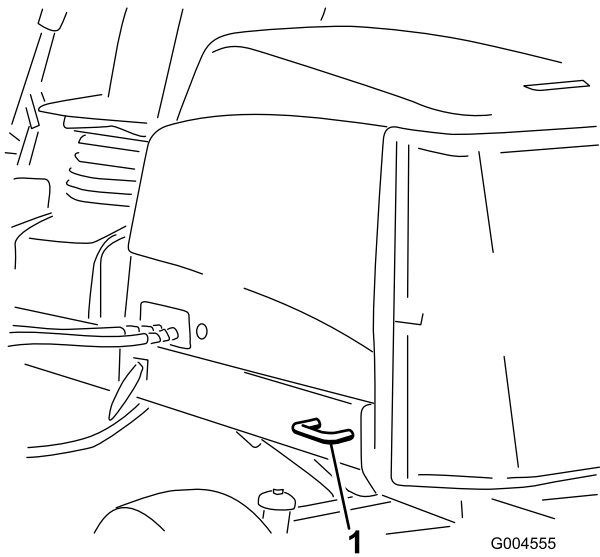

Figure 70
- Rear—each side of the machine on the rear frame (Figure 70)